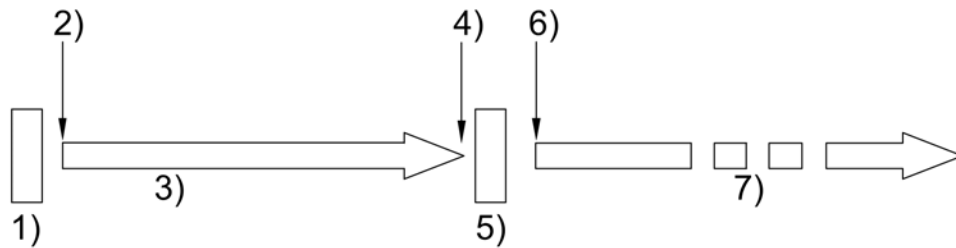

Fig. 6
- Fig. 6 shows the relationship between the play and pause.